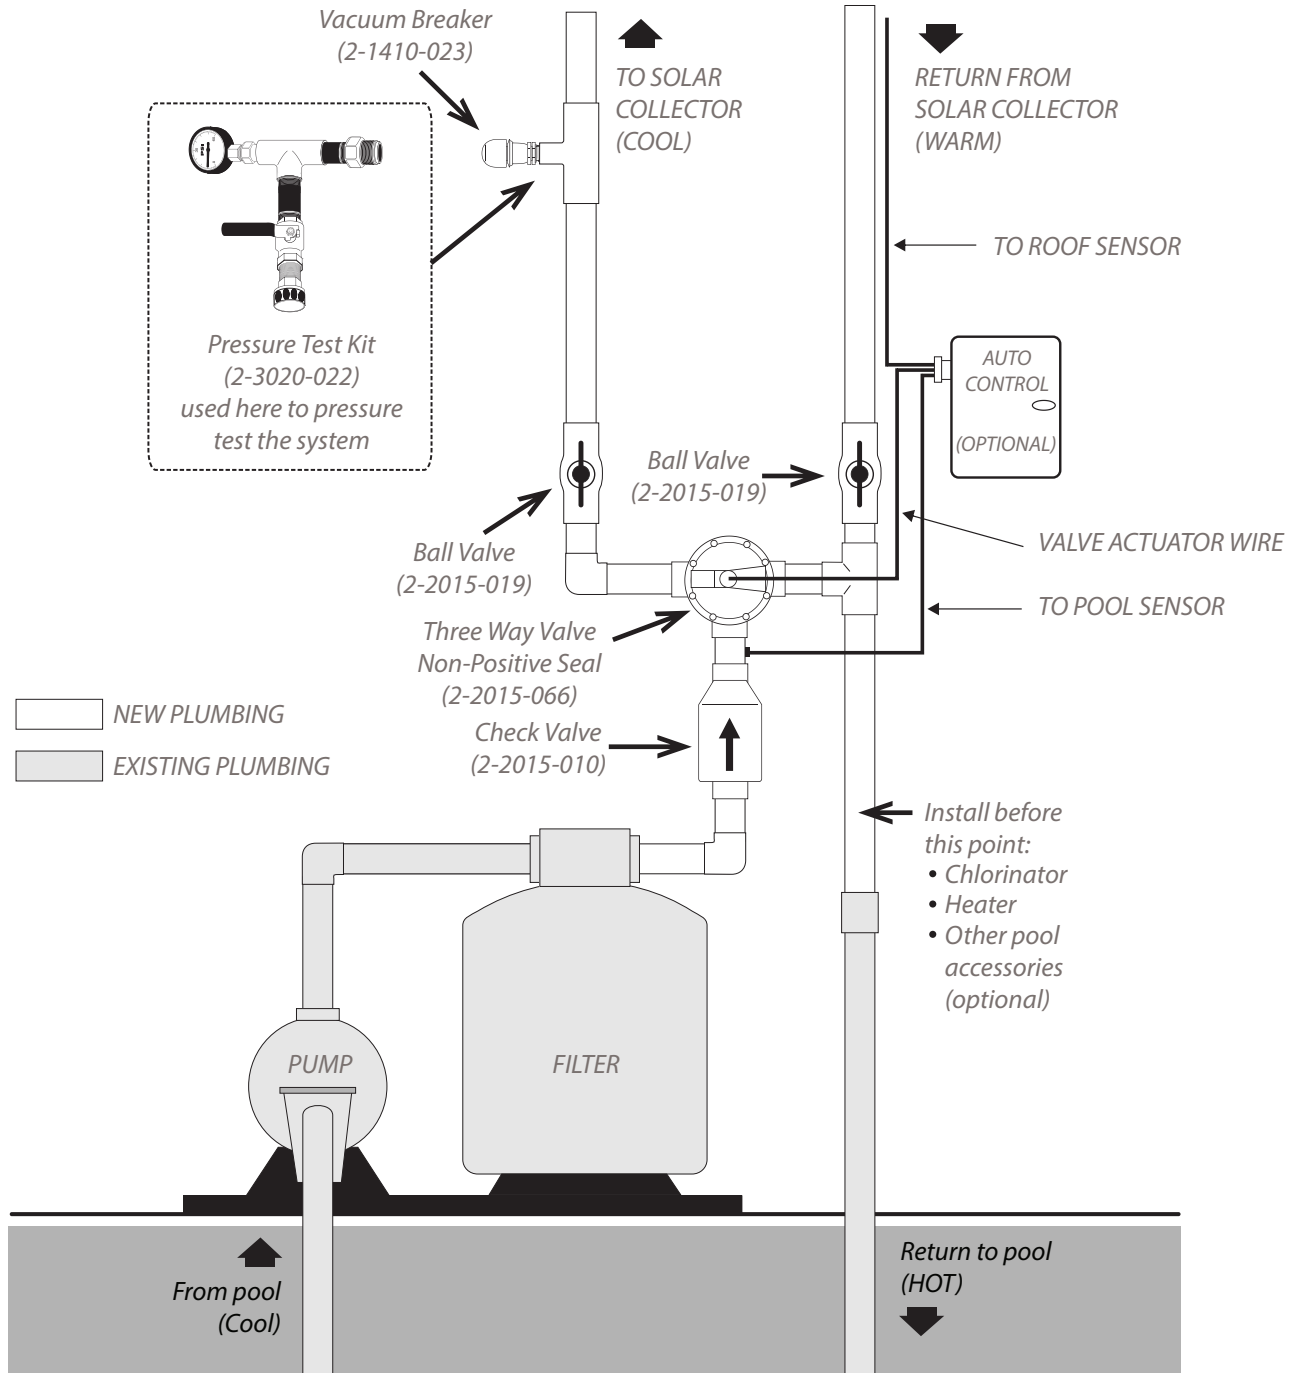

Fig. 13.1
2. Determine where the feed and return pipe will go over the edge of the roof. If possible, this should be perpendicular to the exact points where they will fasten into the existing system or into pipes coming from another location (see Fig. 13.1, page. 24).
Fig. 13.1 on page 24 shows how a typical Swim Joy solar pool heating system is plumbed into existing pool plumbing. This drawing may not be just like every system you encounter; the feed and return plumbing on a solar system may be reversed, or it may be a different type of filter, or it may have additional equipment such as a chlorinator, pool cleaner, gas heater, etc. It may also have a long run of plumbing from the pool equipment to the solar collectors.
Whether the system is like this or not, Fig. 13.1 will help you understand the flow of water from the pool, through the pump, filter, solar system, and back to the pool. Study the diagram and become familiar with the valves needed to connect the solar collectors to existing plumbing.
1. Study the plumbing after the filter and decide where you are going to install the check valve and the PVC tee fitting (see Fig. 13.1). If you have auxiliary equipment, you may need to re-plumb a portion of your existing plumbing so this equipment is located after the solar system as indicated in Fig. 13.1.
2. Cut the pipe after the filter where you have decided to locate the check valve and where your solar return pipe will attach to your existing pool return line. If your pool plumbing is 1-½", and you are running 2" plumbing to your solar system, you should be using 2" valves and piping for all of your new plumbing. Therefore you will need (2) 2"x1-½" reducer bushings to adapt your new 2" fittings to the existing 1-½" pipe.
6. Install the (2-1410-023) vacuum breaker about 4' up the feed line and above the top of the filter using a PVC tee and reducer bushing. Face the tee to the outside as shown in Fig. 13.1. Wrap the threads of the vacuum breaker with Teflon tape and screw it into the ¾" threaded reducer bushing.